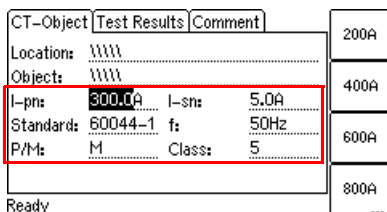

Figure 4-3: **CT-Object** card with name plate data entered
3. Enter the name plate data of the CT to the **CT-Object** card (see Figure 4-3). Refer to the table below.